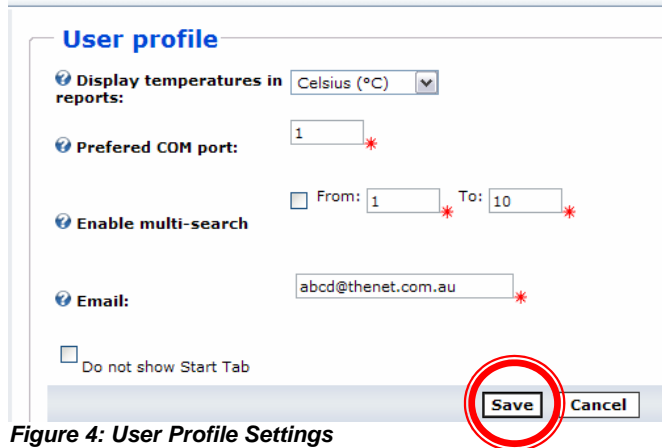

Figure 4: User Profile Settings
- Choose **Save** to retain these settings. (See Figure 4).